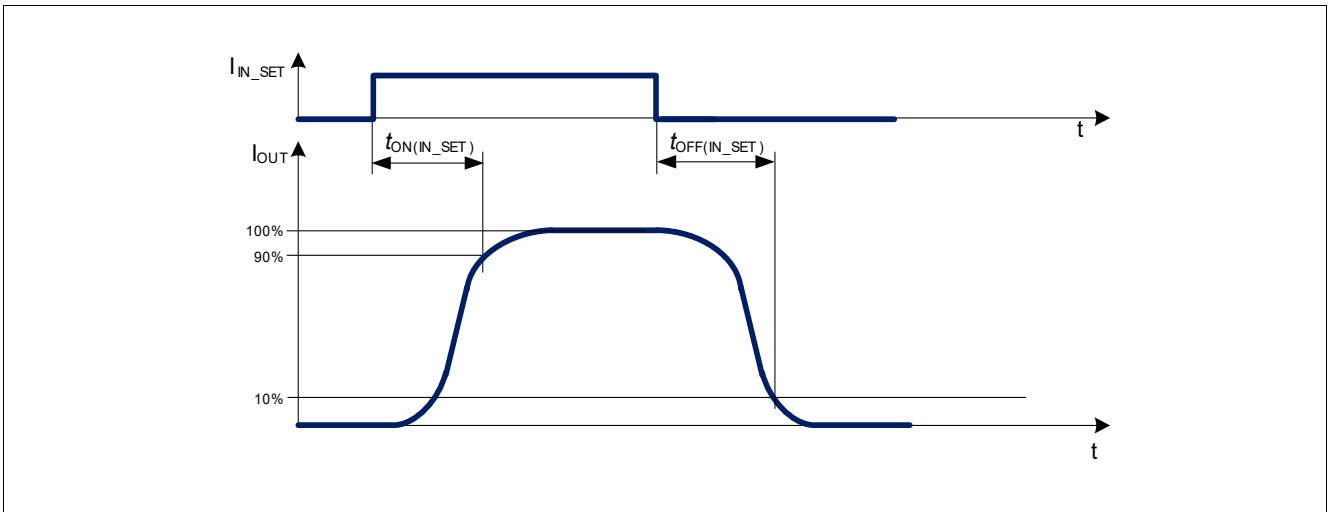
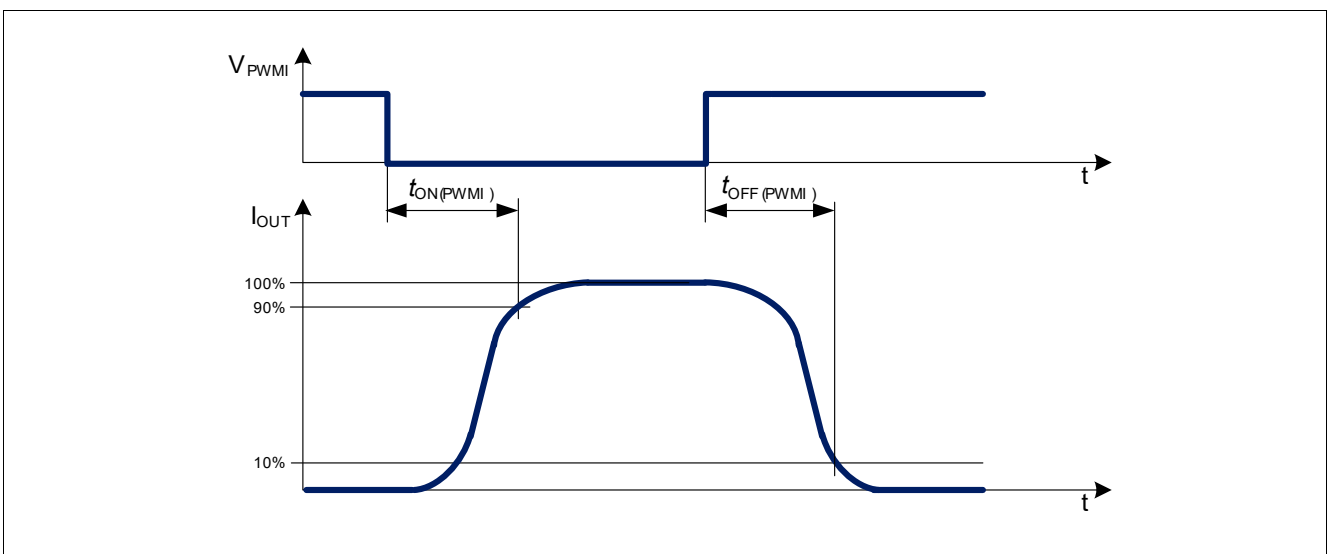

Figure 14 IN\_SET turn on and turn off delay timing diagram
Figure 16 PWMI turn on and turn off timing diagram
In the following diagram (Figure 14, Figure 16) the influences of inputs on output activation delays are shown.
- 2) Refer to Figure 14.
- 4) Refer to Figure 16.